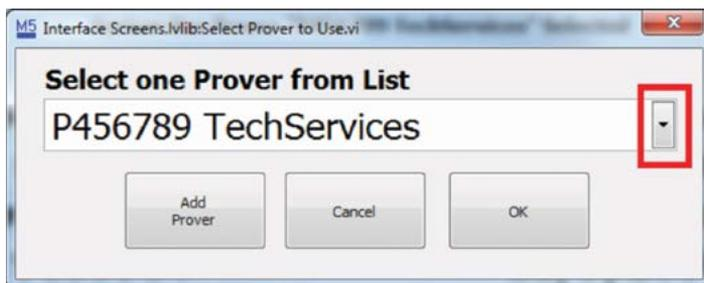

Figure 74: Prover Drop Down Arrow
2. A window will appear. Click the down arrow on the right-hand side of the window as shown in **Figure 74**.